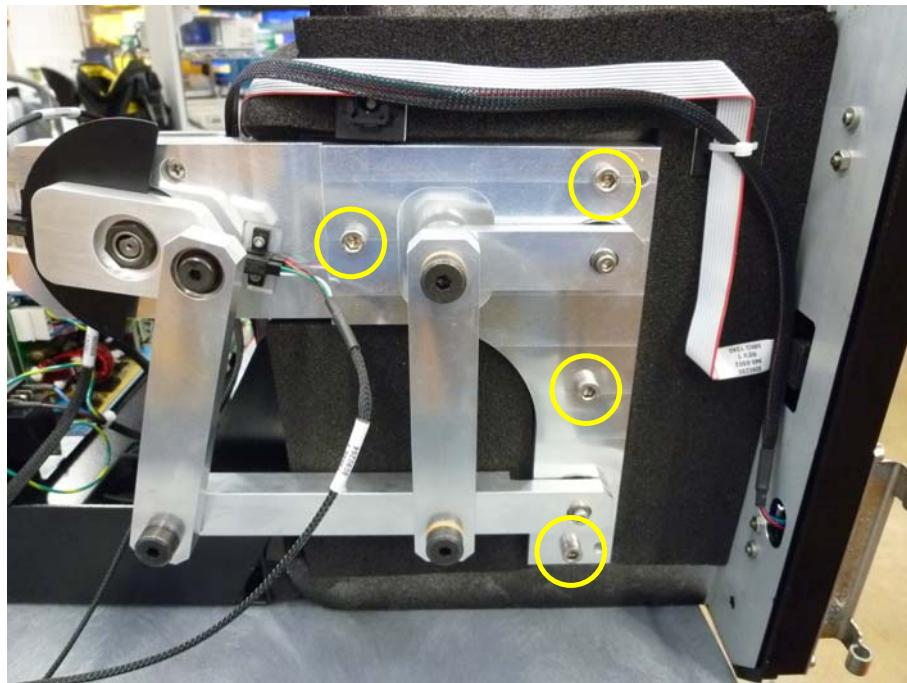

Figure 29
5. Remove four M6 hex screws that secure the Agitation Assembly (**Figure 29**).